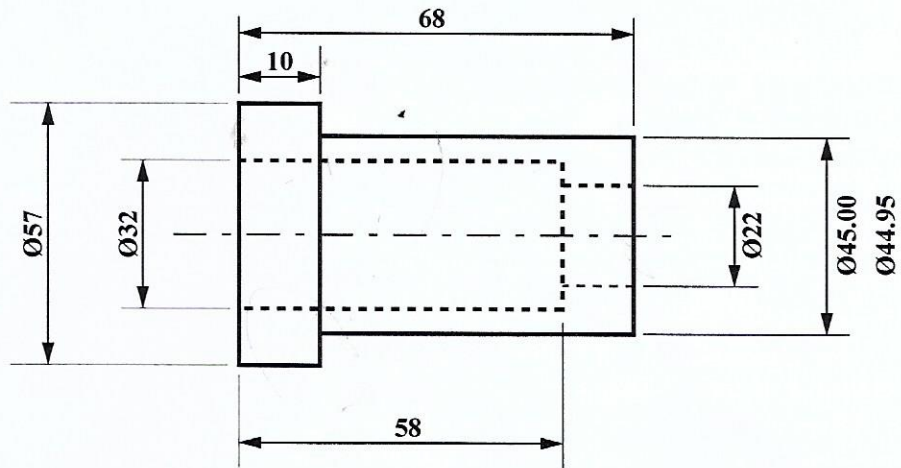

Figure 3. Bushing
3. Figure 3 shows a bushing which is to be made on a centre lathe from material 60 mm in diameter and 70 mm long.